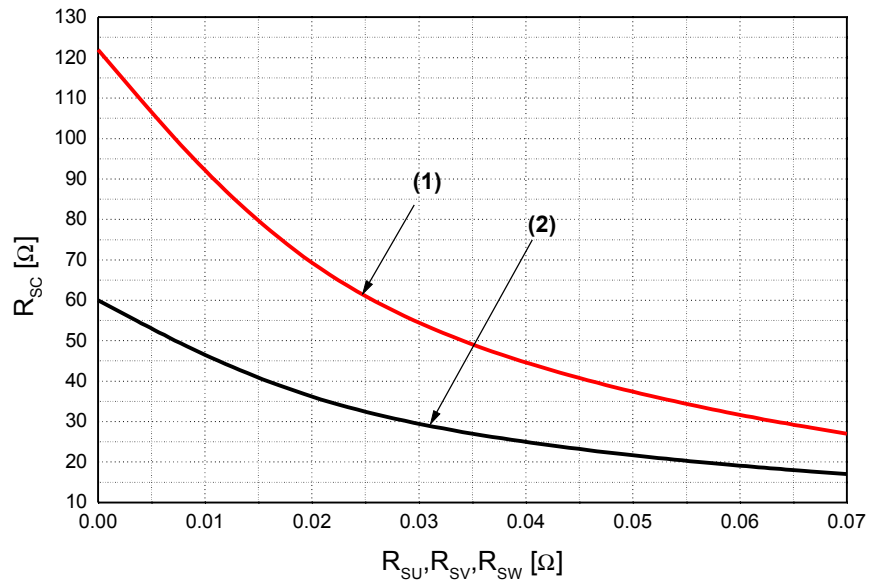

Fig. 7. R_{SC} Variation by change of Shunt Resistors (R_{SU} , R_{SV} , R_{SW}) for Short-Circuit Protection
5. Short-circuit current protection is functioning only at the low-sides. It would be recommended that the value of the external sensing resistor (R_{SC}) should be selected around 60 Ω in order to make the SC trip-level of about 30A at the shunt resistors (R_{SU}, R_{SV}, R_{SW}) of 0Ω. For the detailed information about the relationship between the external sensing resistor (R_{SC}) and the shunt resistors (R_{SU}, R_{SV}, R_{SW}), please see Fig. 7.